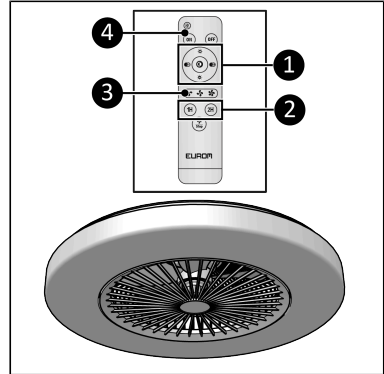

Figure 33.
(Figure 33, pos 4).
(Figure 33, pos. 1):
1. Press the fan speed button until the desired fan speed is reached (Figure 33, pos. 3):
1. Use the 1H or 2H buttons to set the countdown timer (Figure 33, pos. 2).